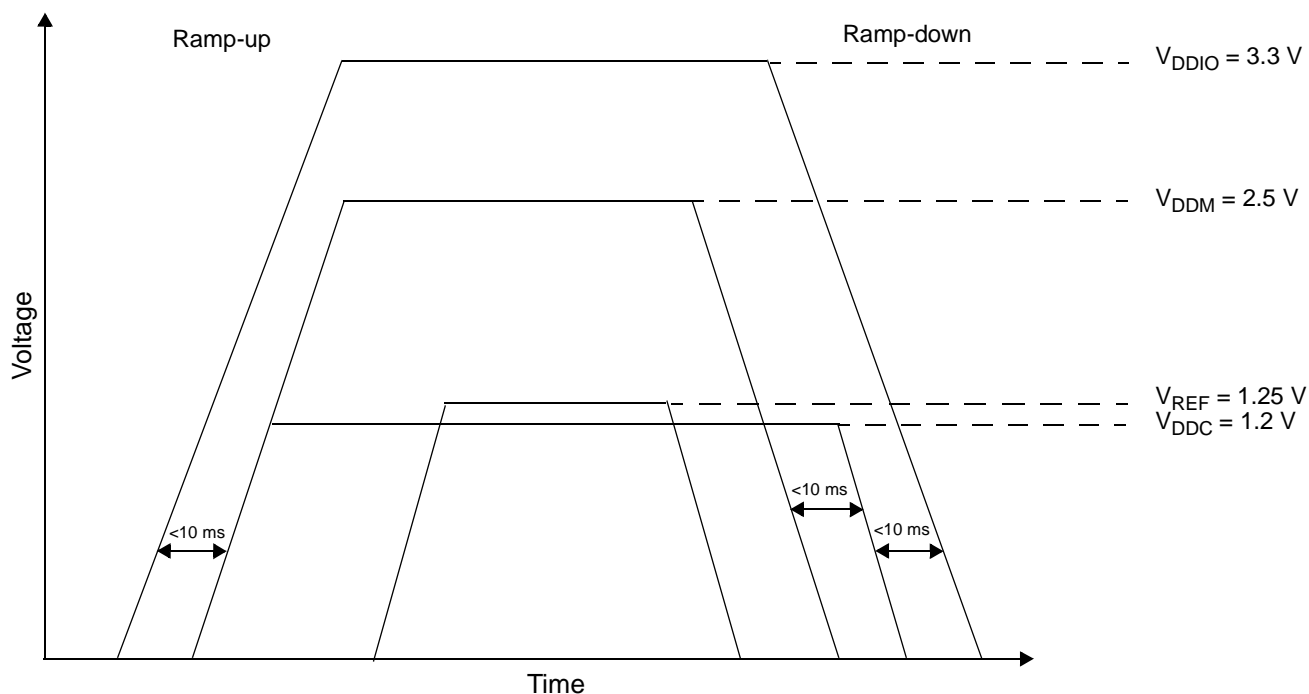

Figure 27. Voltage Sequencing Case 2
- Refer to **Figure 27** for relative timing for Case 2.